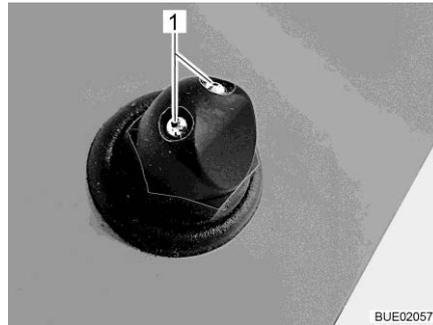

Fig. 50 Washer nozzles (variant 1)
- Use a pointed object to adjust the washer nozzles (Fig. 50,1) until the desired position has been reached.